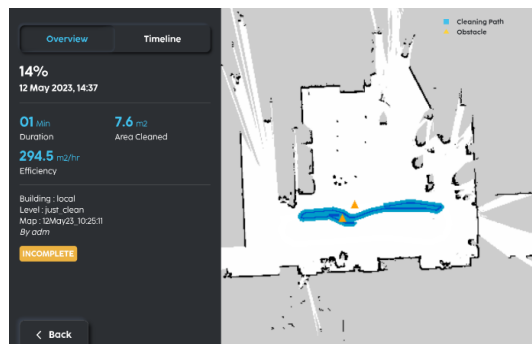

FIGURE 6-16
4. Select the cleaning report of interest. An overview of the cleaning operation will be shown in the 'Overview' tab (Fig. 6-16).